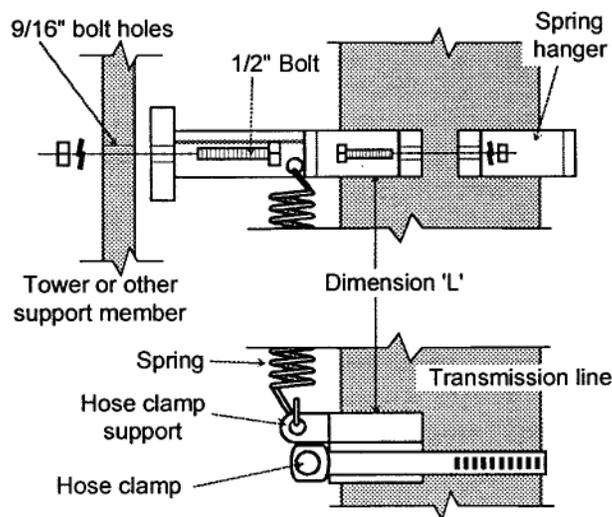

Figure 2. Spring Hanger Assembly Installation
2. Attach a spring and a hose clamp support to the spring hanger as shown in figure 2. Place the hose clamp support against the transmission line and install a hose clamp. Before tightening the hose clamp, slide the hose clamp support down the line until the "L" dimension between the bottom of the spring hanger and the top of the hose clamp support is as shown in table 1 on the reverse. Make sure the worm gear portion of the hose clamp is against the saddle, not against the transmission line itself. Then tighten the hose clamp.